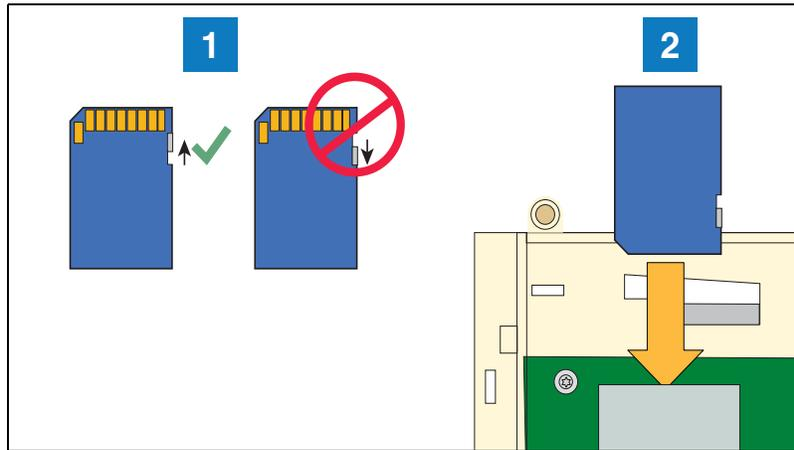

Figure 5. Inserting SD Card In Its CPU board Enclosure
2. When replacing the SD card, always check the read/write-protect switch on the side of the card is in the position shown in Figure 5. Orient the card, contacts down and angled corner to the left, as you gently push the card into its enclosure until it clicks into the enclosure's latch.